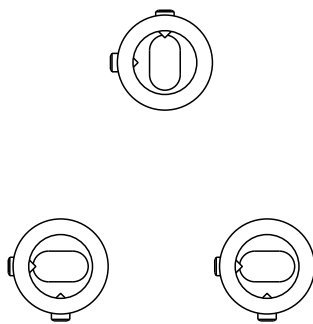

fig 1. Bracket Positions
Position brackets (B) on wall with grub screw holes as shown in figure 1 for maximum rigidity before tightening screws (C).